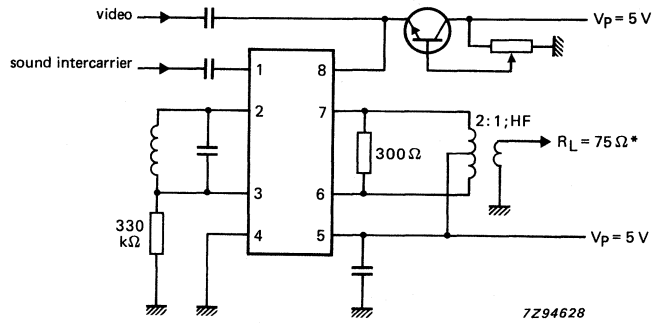

Fig. 3.
**Note to Figure 3**
Positive modulation (see Fig. 3)